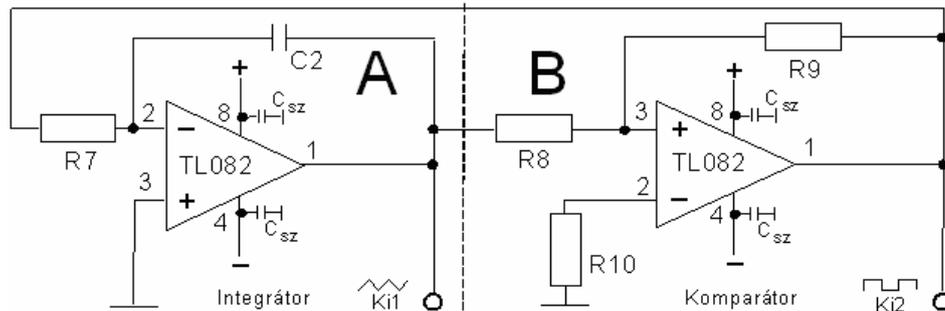

Figure 4-4. Waveform generator
- 4.1. Build the circuit depicted in fig. 4-4! The parameter values should be determined by the tutor! (The integrator should be built by student A, the Schmitt-trigger (comparator) by student B)